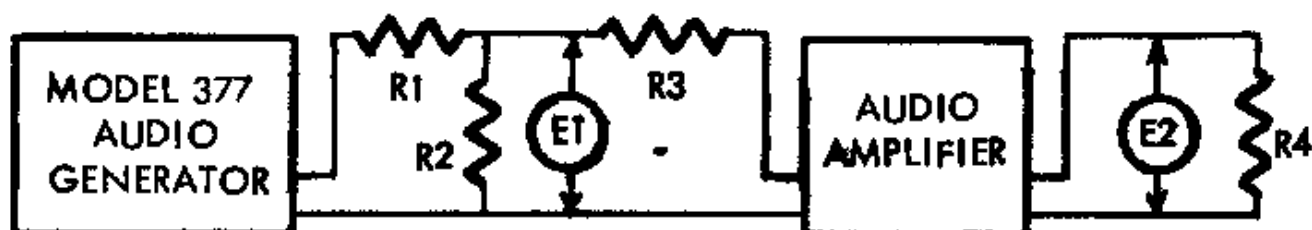

FIG. 6
**AUDIO AMPLIFIER RESPONSE:** The set up for determining the frequency response of an audio amplifier is shown in Fig. 6.